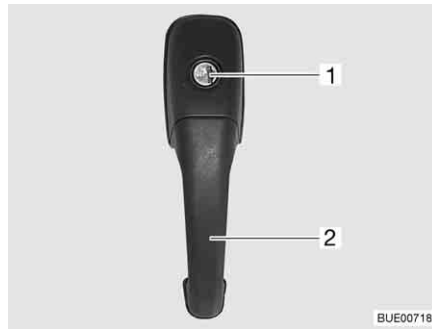

Fig. 37 Door lock of conversion door, outside
- Insert the key into locking cylinder (Fig. 37,1) and turn until the door lock is unlatched.
- Pull on the handle (Fig. 37,2). The door is open.
- Insert the key into locking cylinder (Fig. 37,1) and turn until the door lock is engaged.